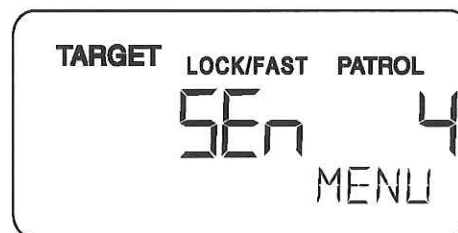

Fig. 3
The sensitivity of **STALKERII** is adjusted by pressing the **MENU** key a second time. The **▲** and **▼** keys then cycle through the five (5) sensitivity levels: **SEN 0**, **SEN 1**, **SEN 2**, **SEN 3**, and **SEN 4** (Fig. 3 shows sensitivity level 4, the factory default setting). In each case, the right-hand display refers to the current sensitivity setting. Sensitivity varies from **SEN 0** (0 range) to **SEN 4** (maximum range). Press the trigger to exit the Operator Menu.